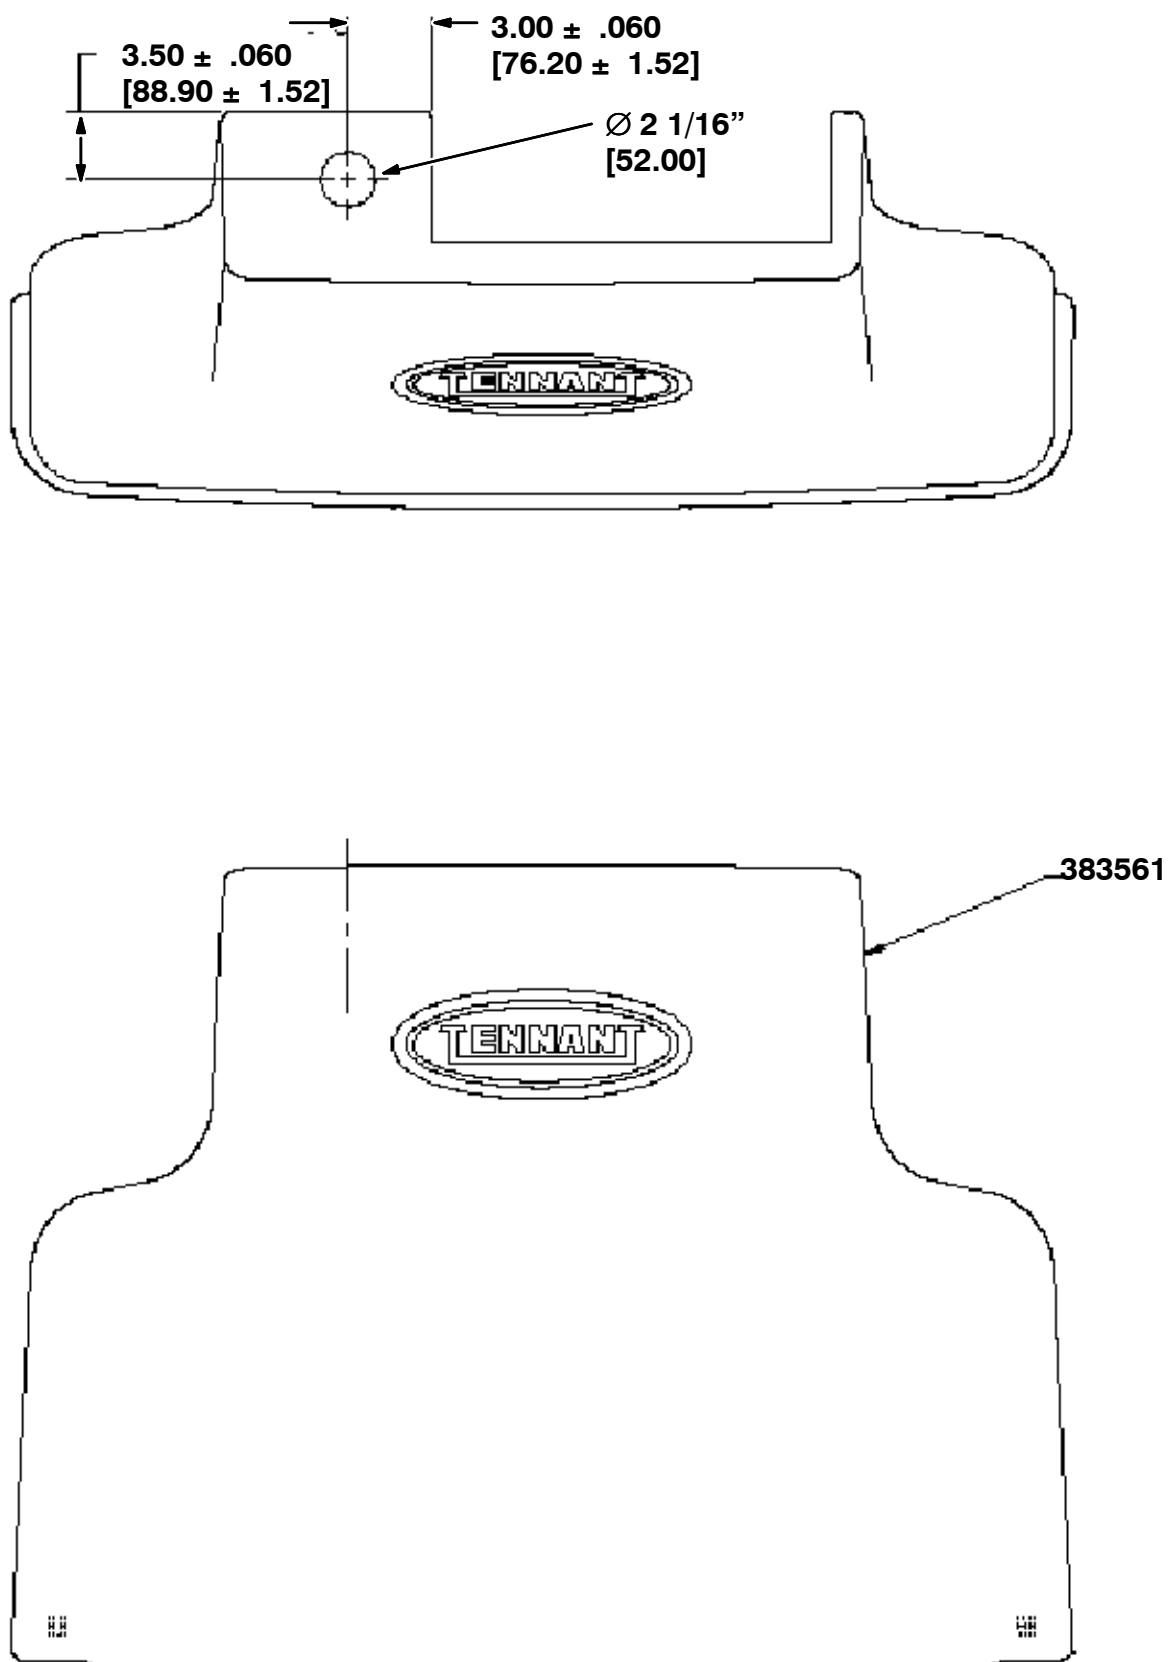

FIG. 2 - FRONT SHROUD HOLE LOCATION
2. Using the hole location drawing in figure two for reference, mark and drill a 2 1/16" [52.00] hole in the top right hand corner of the front shroud, for the fuel gauge. (Refer to FIG. 2)
4. Install the new fuel gauge (2) in the hole drilled in the top of the front shroud. (Refer to FIG. 2)